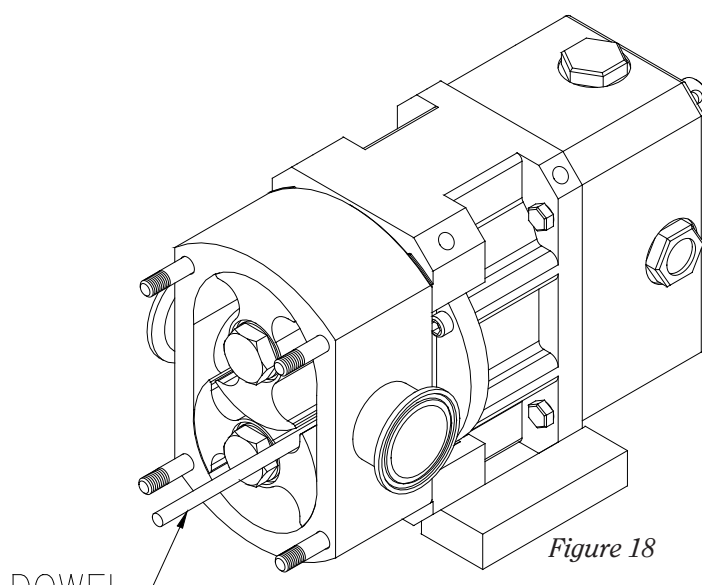

Figure 18
- e) Place the wooden dowel between the rotors as shown in *Figure 18*.